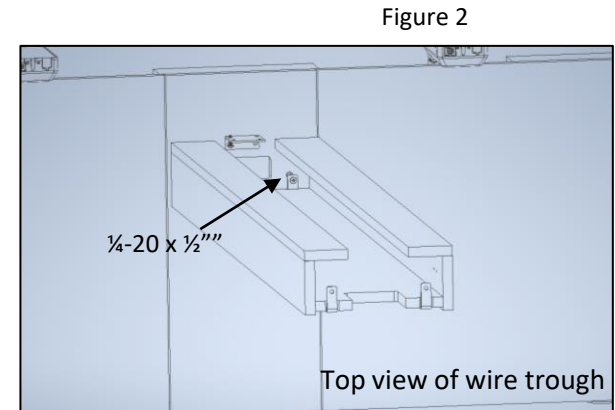

Figure 2
2. Attach the L-bracket to the panel using the screws provided. Screws will go into the L-Brackets against the panel (Figure 2)